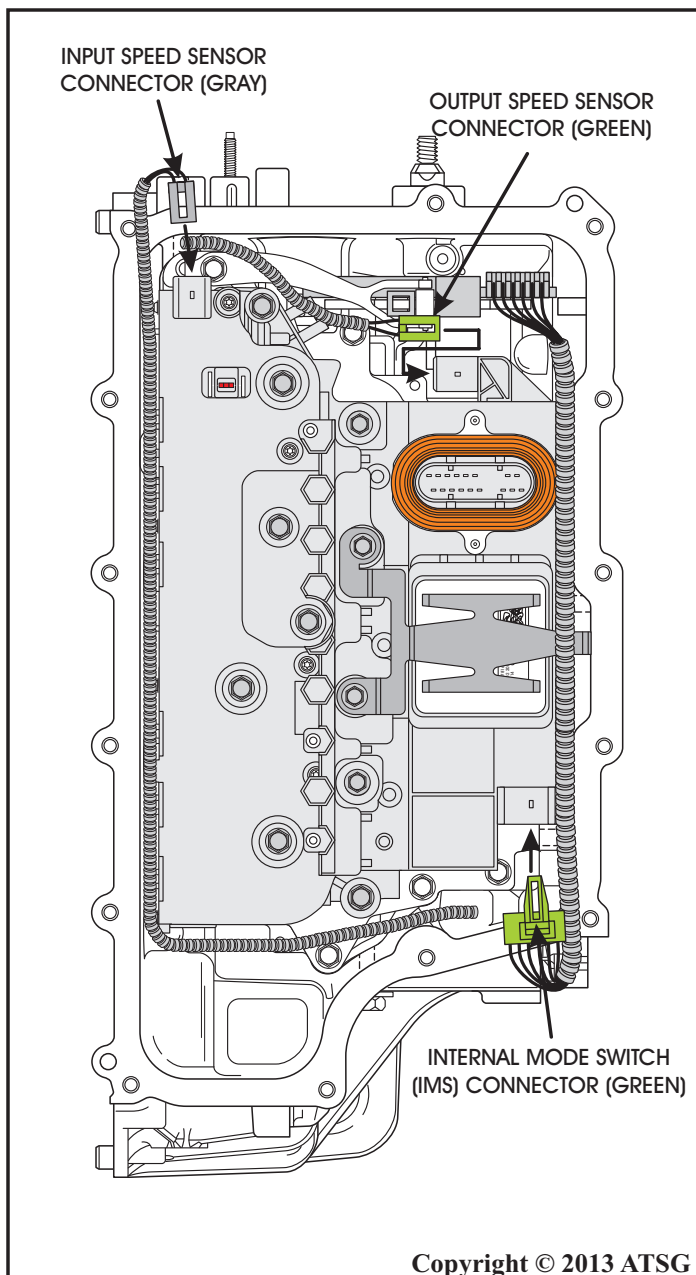

Figure 221
64. Connect output speed sensor green connector to the solenoid body & TCM assembly, as shown in Figure 221.
65. Connect input speed sensor gray connector to the solenoid body & TCM assembly, as shown in Figure 221.
66. Connect internal mode switch green connector to the solenoid body & TCM assembly, as shown in Figure 221.
**Note:** Route all wire harness' as shown in Figure 221.